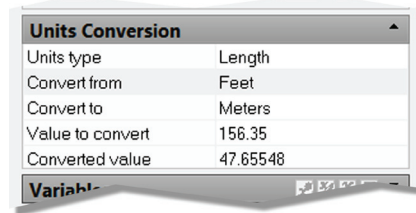

Figure 10: Use the Calculator Palette to convert between feet and meters.
5. If necessary, use the scroll bar on the right to pan down and see the “Converted value.” (The finished conversion should look like Figure 10.)